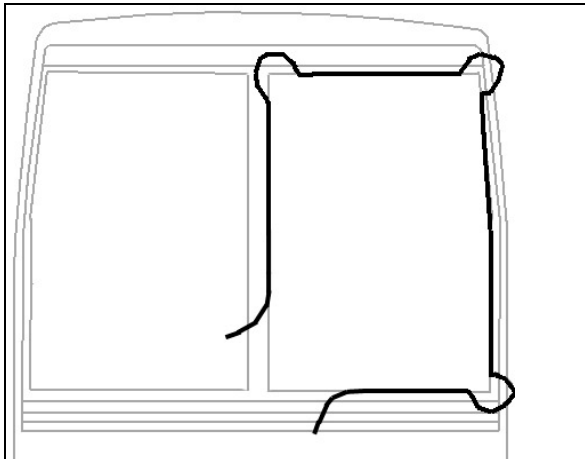

FIGURE 23: WINDSHIELD INSTALLATION USING ROPE
- Insert rope into rubber extrusion leaving enough length at each corner to make a loop. Spray soapy water onto rope and rubber extrusion (Figure 23).